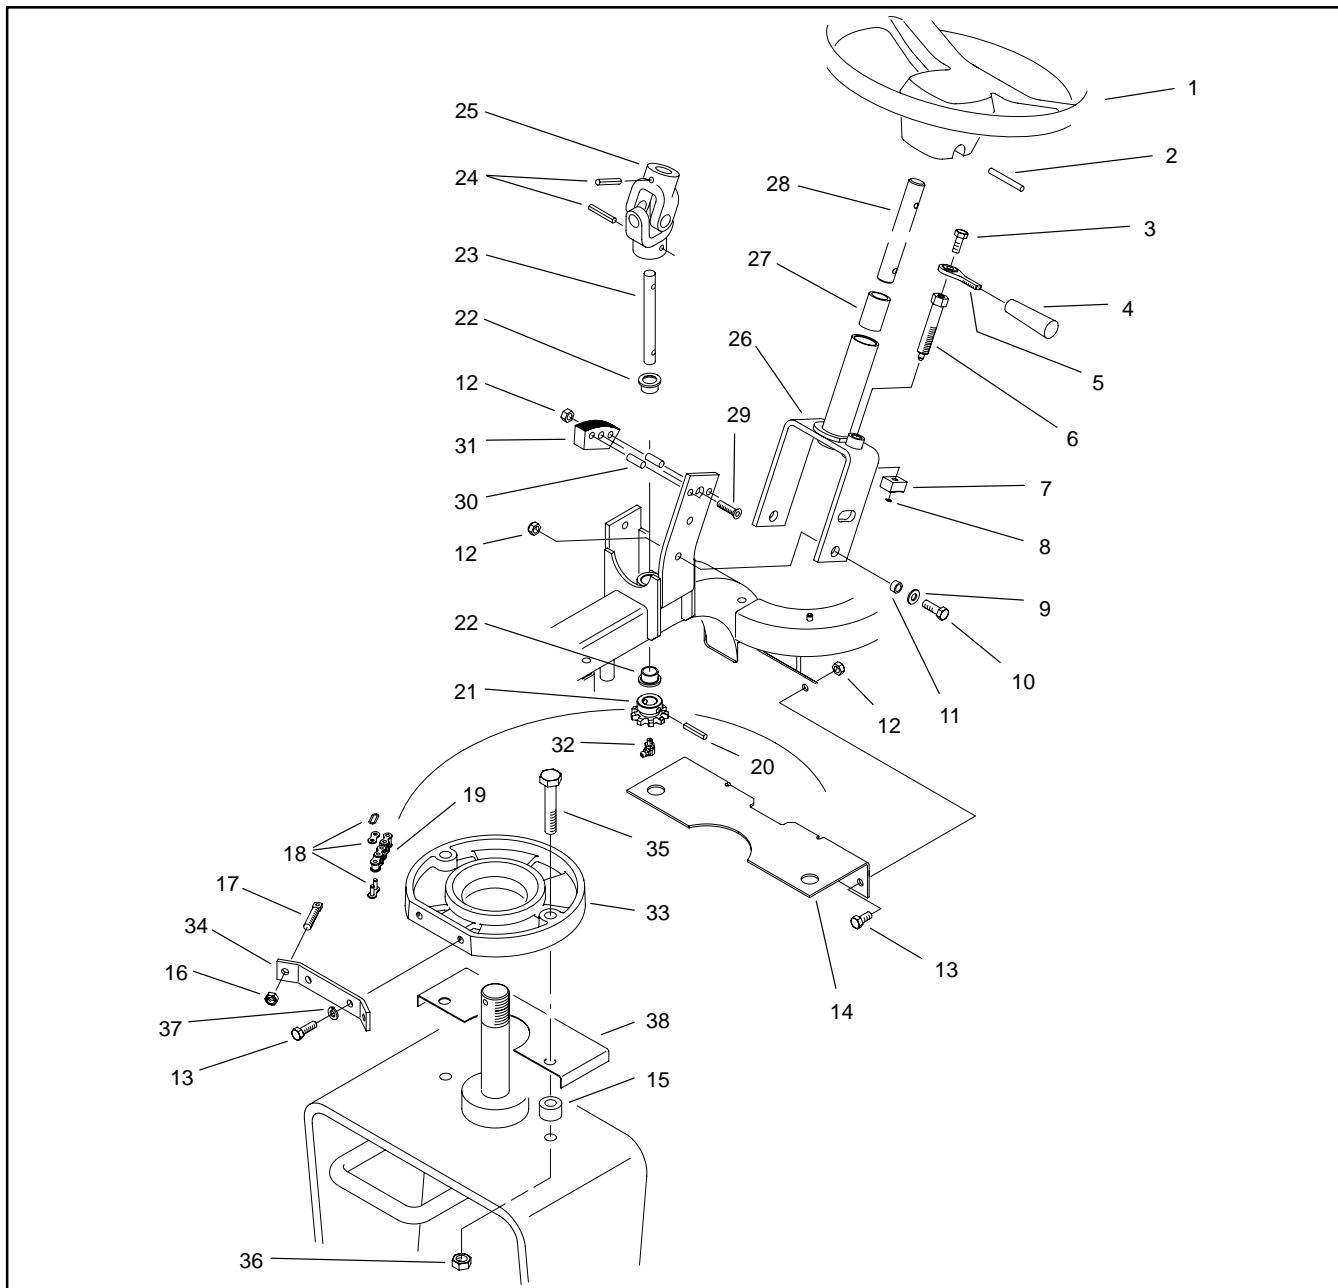

Figure 19
Upper Steering Disassembly (Fig. 19)
Upper Steering Assembly (Fig. 19)
5. Remove lock nut from each adjustment pin. Remove steering chain from the front fork and the sprocket (Fig. 19).